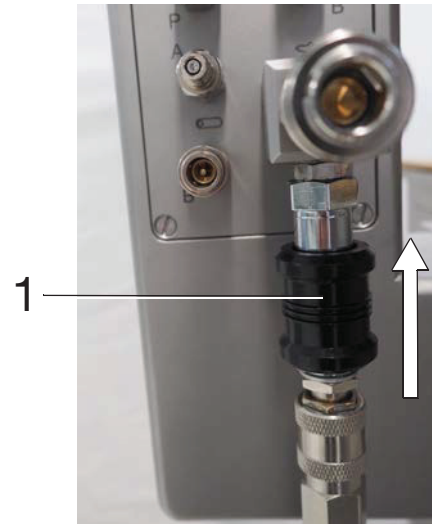

Fig. 3-17 1 Air release valve
- Push air release valve (1, Fig. 3-17) in the direction of flow (see white arrow, Fig. 3-17).